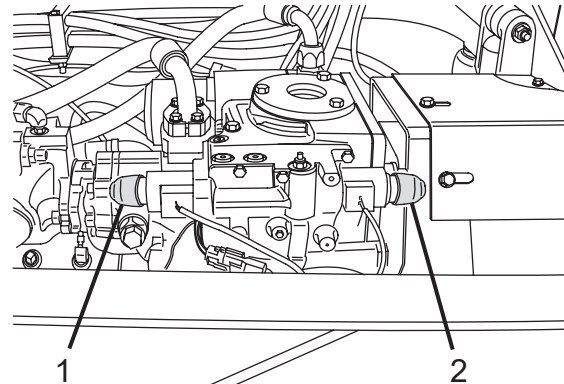

Figure 37
1. Locate the manual override buttons (Figure 37, Items 1 or 2) on the electronic displacement control valve.